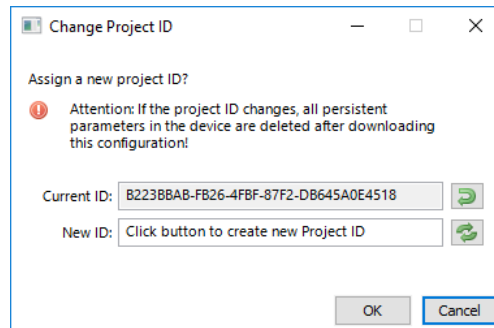

Figure 28: Change the project ID.
- **Project ID:** This button opens the project ID dialog as shown in Figure 28. The project ID uniquely identifies a data point configuration. If the project ID changes, all persistent values on the device are discarded and replaced by the new data point configuration. To force a new project ID open the dialog and click on the button  to generate a new ID. Then click **Ok** to accept the new project ID.